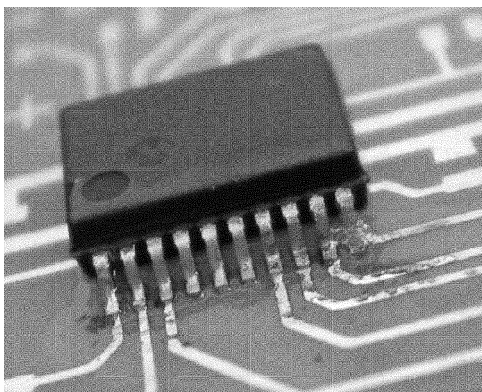

Figure 9.16: After removing the solder, solder bridges (one can be seen on the right) may sometimes remain, requiring another removal pass.
- Solder bridges may have formed between two or more pins, as in the example on figure 9.16. It is usually sufficient to treat the offending pins once more with desoldering braid. The braid should be half saturated with solder, to improve heat conduction. If the bridge resists, try adding more solder and/or increasing the temperature of the soldering iron. A desoldering wick of poor quality may completely fail to remove the last traces of solder between pins. In such a case, the only correct solution is to look for a better braid, as described in section ??.